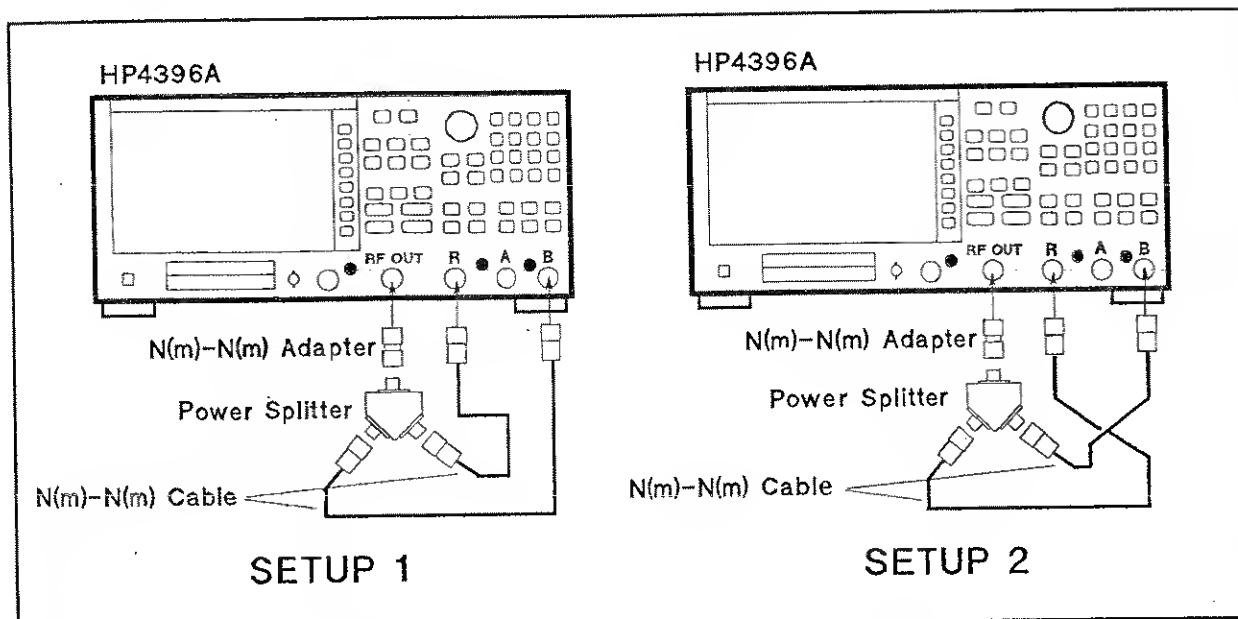

Figure 2-17. B/R Magnitude Ratio/Phase Frequency Response Test Setup
- a. Connect the test equipment as shown in setup 1 of Figure 2-17.
e. Reverse the cable connections of the HP 4396A B and R inputs as shown in setup 2 of Figure 2-17.
o. Connect the test equipment as shown in setup 1 of Figure 2-17.